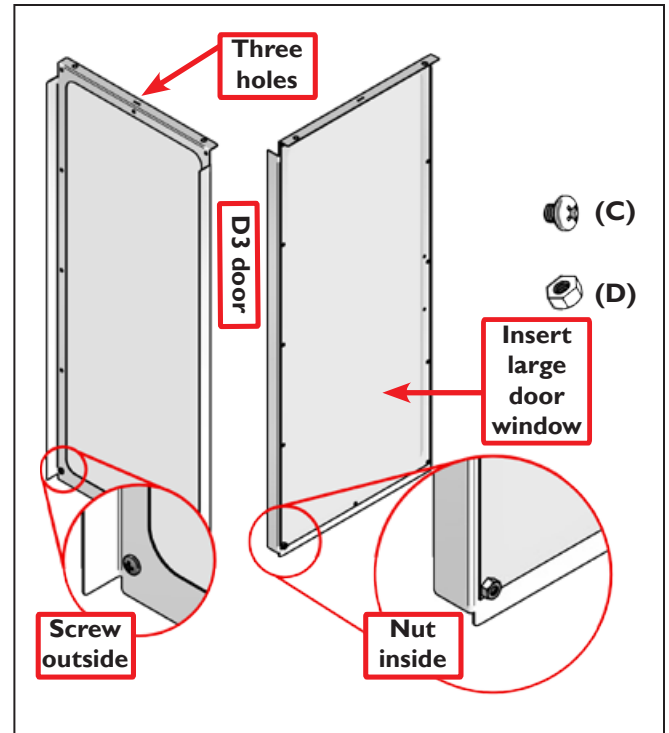

Figure 25
70. Place Large Door Window (E.12;Tormach PN 34433) inside the D3 Door Frame (E.9) and fasten with (C) screws and (D) nuts as seen in **Figure 25**.